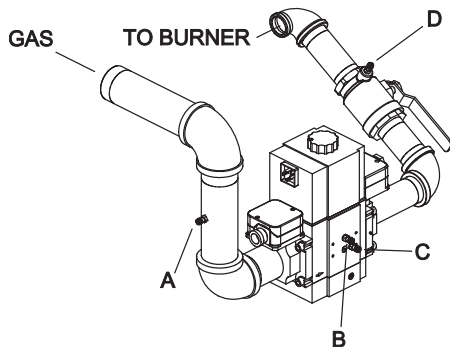

Fig. 45: Gas Pressure Measurement Locations
2. Attach (1) 12" scale manometer to an upstream bleedle valve on the gas supply pipe to the heater (Measure point "A" in Fig. 45).
1. Check manifold gas pressure at the gas valve outlet pressure tap (connection "D" in Fig. 45). This pressure should read per the values in Table T for natural and propane gas.